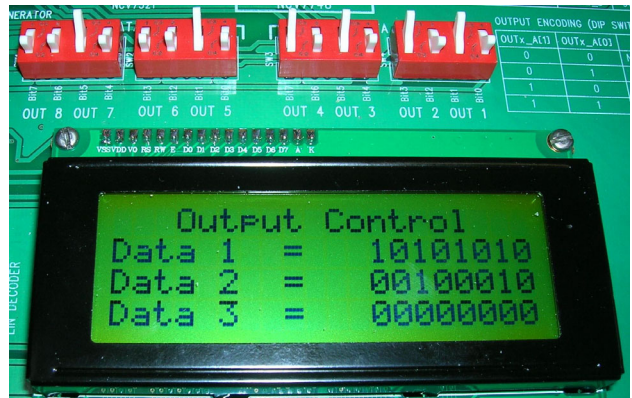

Figure 12. OUTPUT CONTROL Display
- NOTE: Figure 12 highlights the dip switches settings and the resultant display of the settings.